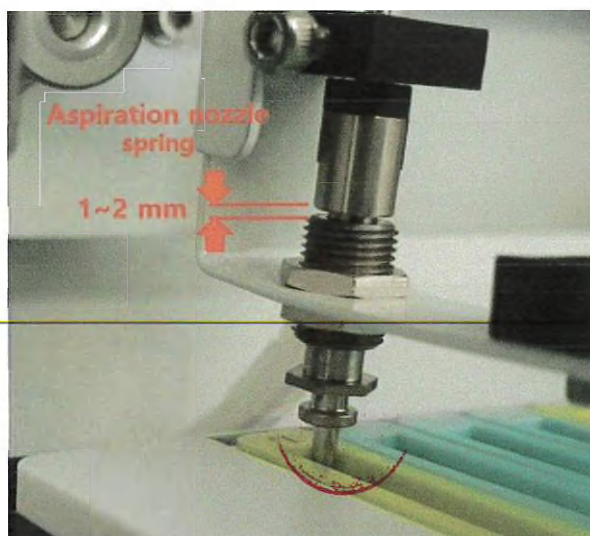

Figure 45
9.5.5.9 If you repeat steps 5.2 ~ 5.8, you can calibrate all the dropdown menu lists in the Nozzle area. If you select the Dispense menu, the aspiration nozzle (nozzle) should touch the panel and the spring should be compressed by about 1-2 mm [Figure 45].